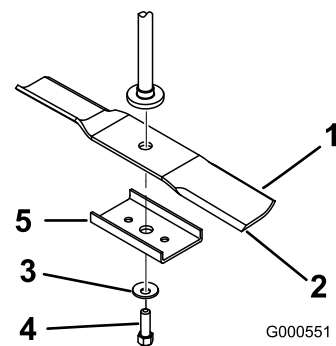

Figure 45
2. Remove the blade bolt, the curved washer, and the blade from the spindle shaft (Figure 45).
1. Install the blade onto the spindle shaft (Figure 45).
2. Install the curved washer (cupped side toward the blade) and the blade bolt (Figure 45).